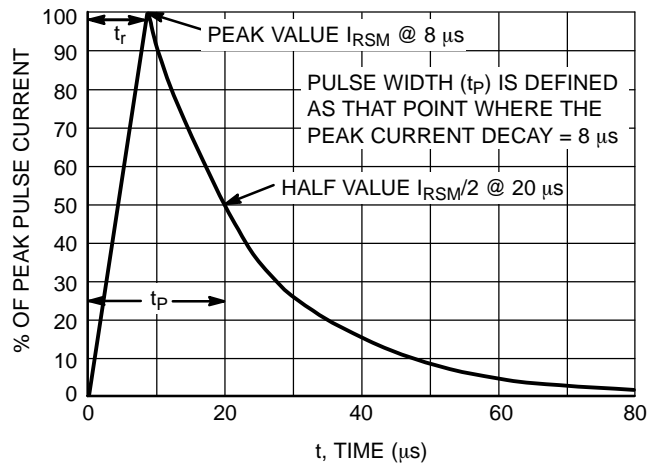

Figure 2. 8 × 20 μs Pulse Waveform
1. Non-repetitive current pulse per Figure 2
- Surge current waveform per Figure 2